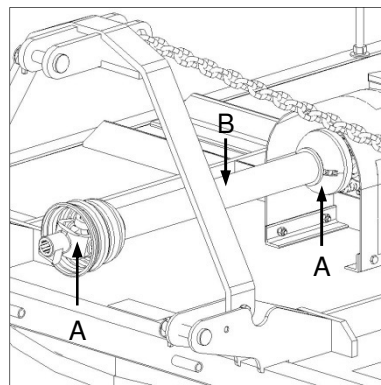

Fig. 7
- ✔ Apply grease to the universal joints (Fig. 7-A) and telescopic tubes (Fig. 7-B) of the PTO shaft.
- ✔ Ghries die kruiskoppelings (Fig. 7-A) en teleskopiese buise (Fig. 7-B) van die kragtakkeras.